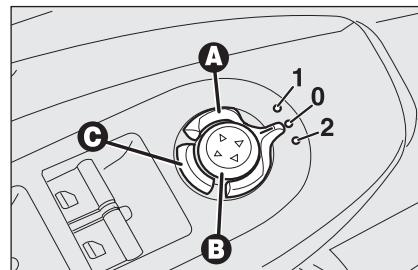

fig. 39
Use device **A-fig. 39** to select the required mirror:
When required (for example when the mirror causes difficulty in narrow spaces) it is possible to fold the mirrors by pressing button **C-fig. 39**.
To bring the mirrors back to driving position press again button **C-fig. 39**.
- move device **A-fig. 39** to position **2** (passenger door mirror selection);
Proceed as follows: fit the electronic key into the ignition device, engage reverse, move device **A-fig. 39** to position **2** (passenger door mirror selection).
The passenger door mirror will return automatically to its original position about 10 seconds after disengaging reverse, immediately after exceeding 10 km/h with forward gear or when moving device **A-fig. 39** to **0**.